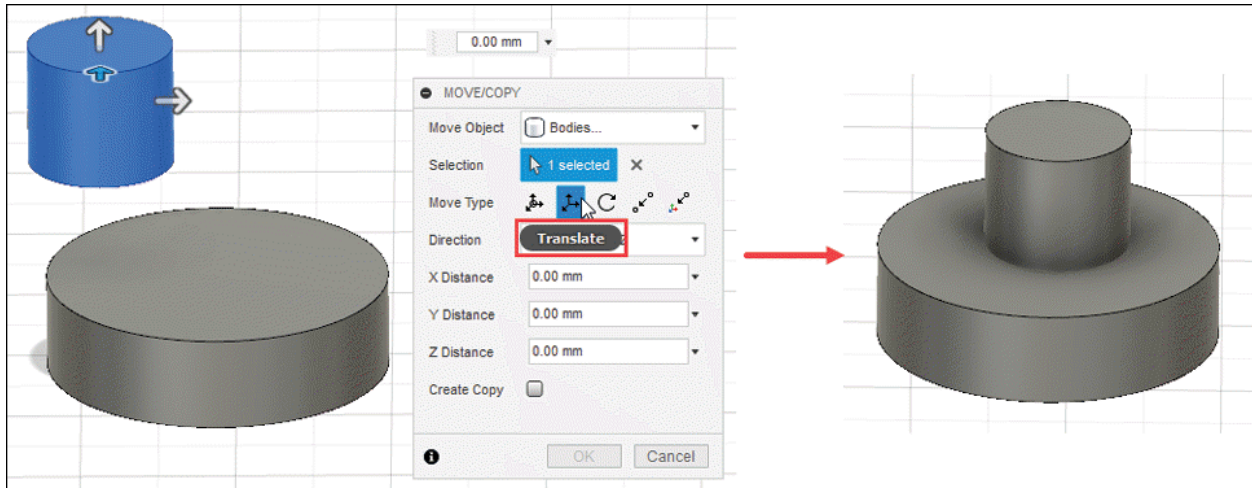

Figure-54. Translate tool in Move Type section
- On selecting the **Translate** button, three arrows will be displayed on the entity. Drag desired arrow to move the body in respective direction. You can also enter the specific value of direction in the respective edit box from **MOVE/COPY** dialog box; refer to Figure-54.